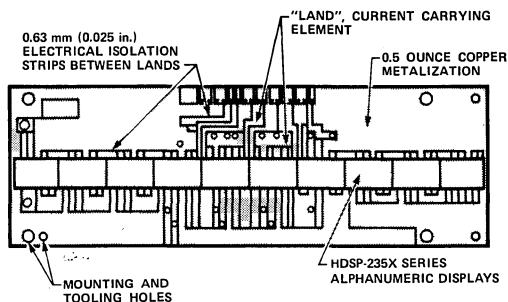

Figure 8. Maximum Metalized PC Board, Double Sided, for Mounting HDSP-235X Series Displays.
1. Mount the displays on a double sided maximum metalized PC board, as illustrated in Figure 8.